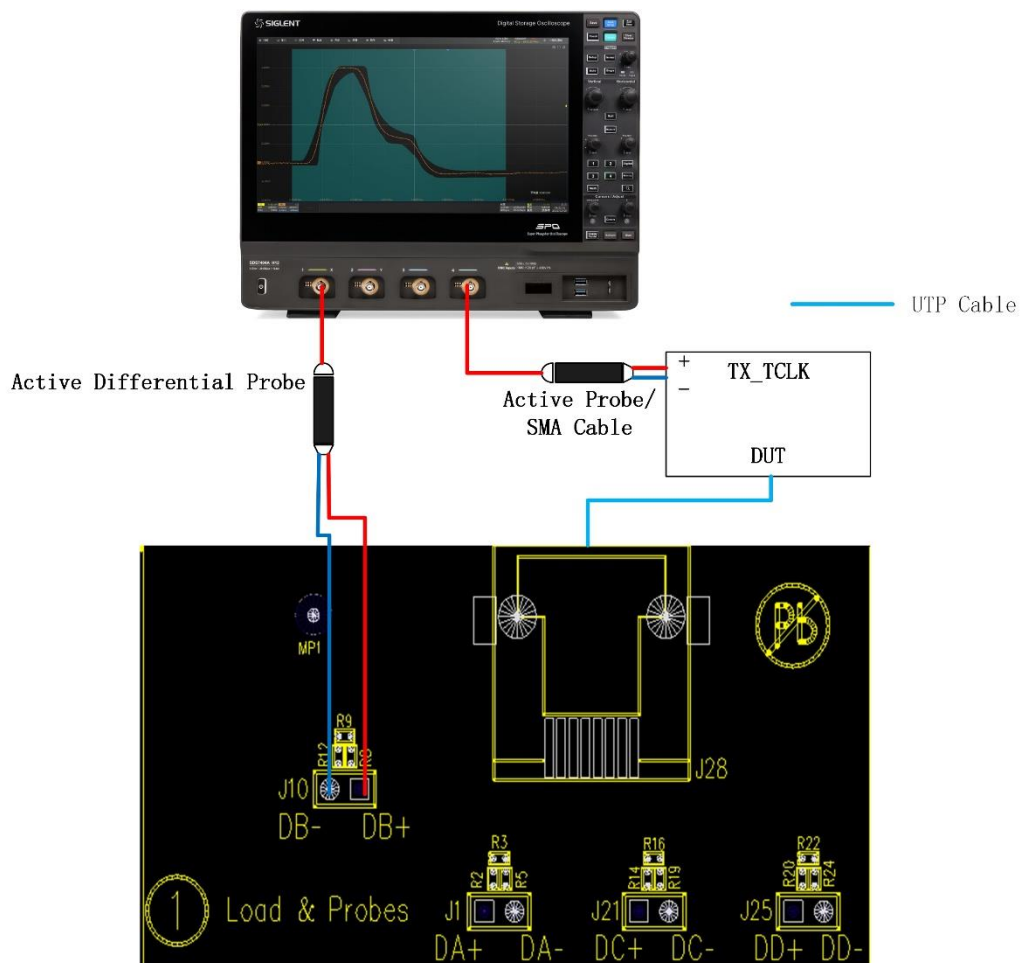

Figure 9-3 Transmitter distortion tests with TX\_TCLK and without disturber by using Section ① on the test fixture
The connection with section ① on the test fixture is shown as Figure 9-3, the test step is as follows:
- (1) Use a short UTP cable to connect the DUT to J28 connector on section ① of the test fixture.
- (2) Use an active differential probe to probe test point (J1, J10, J21, J25) on section ① of the test fixture according to the signal pair being tested {(DA+, DA-), (DB+, DB-), (DC+,DC-), (DD+,DD-)}. Ensure correct polarity of the probe head.
- (3) Connect the DUT's TX\_TCLK to one input channel of the oscilloscope by using an active probe or a SMA cable.